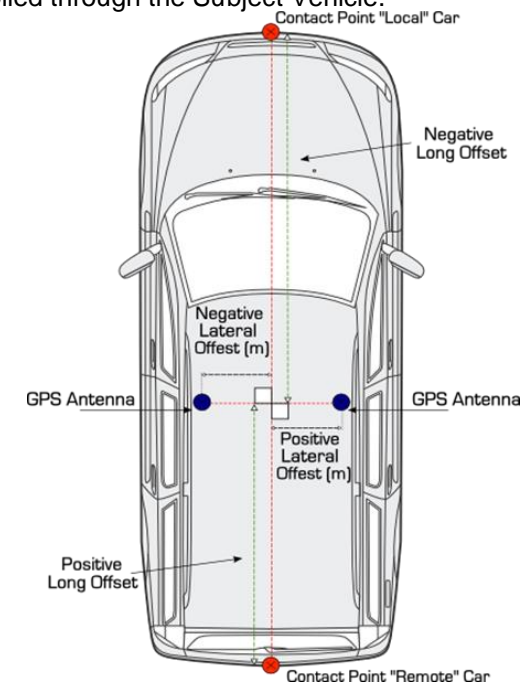

Figure 20: Longitudinal and Lateral offset in 2D plane.
1. Carefully measure the longitudinal and lateral distance from the centre of the GPS antenna to the proposed contact point on each vehicle in a 2 dimensional plane, see Figure 20.
3. Enter the longitudinal and lateral offset as per the conventions shown in Figure 20.